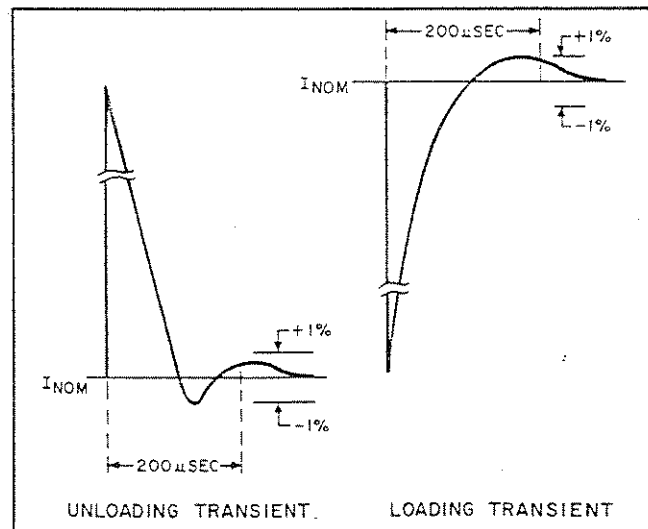

Figure 5-6. Load Transient Recovery Time, Waveforms
f. Adjust 25K potentiometer until a stable display is obtained on oscilloscope. Waveform should be within the tolerances shown in Figure 5-6. Output should return to within $\pm 10\text{mV}$ (Model 6177B) or $\pm 25\text{mV}$ (Model 6181B) of nominal value in less than 200 microseconds.